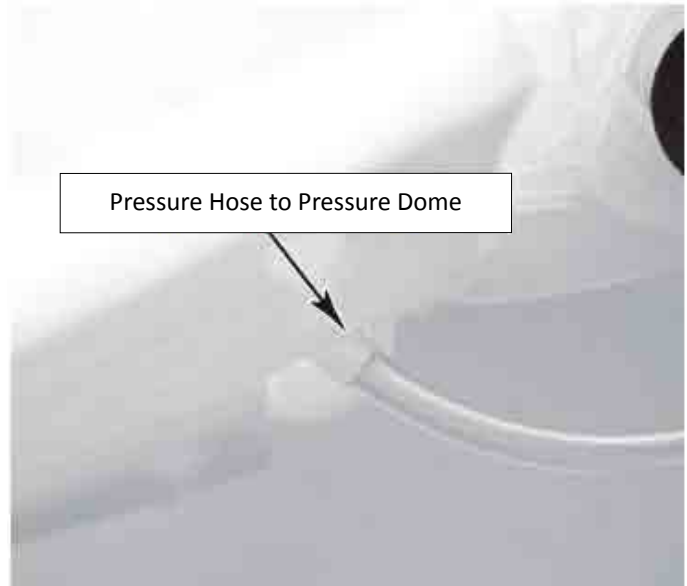

Figure 2 - Hose Connection at Pressure Dome
5. Check hose connections between the pressure transducer on the main control (Figure 1) and the pressure dome on the tub (Figure 2).